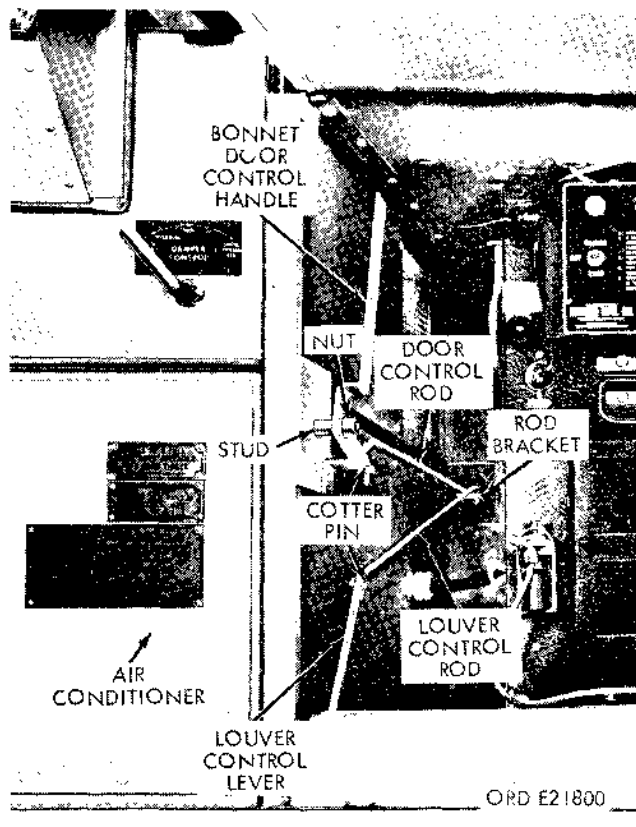

Figure 2-240. Bonnet door right-hand controls and linkage.
(1) Secure the fuel pump with its integral bracket to the van body with two hexagon-head screws.
(2) Connect the fuel lines to the fuel pump inlet and outlet.
(3) Connect the electrical lead.
(4) Open the heater shutoff valve. (fig. 2-240).